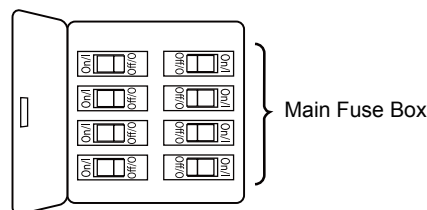
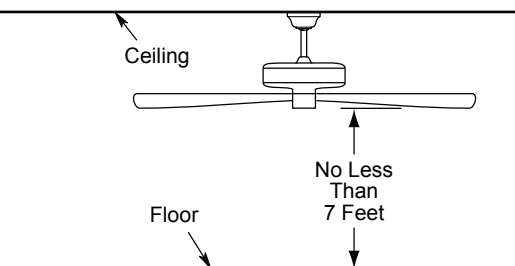
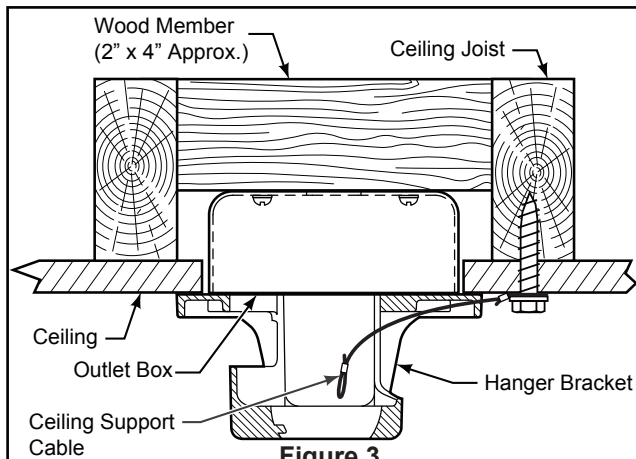

Figure 1
Figure 2
Figure 3
Your new ceiling fan will require a grounded electrical supply line of 120 volts AC, 60 HZ, 15 Amp Circuit. Electrical code requires use of a fan-rated outlet box to support the extra weight and motion associated with a ceiling fan. A fan-rated box will be labeled as such and typically supports up to a 70lb ceiling fan. Fan-Rated Outlet Boxes vary in ratings and design. Ensure the ratings of your ceiling fan outlet box meet the requirements for the ceiling fan being installed. Figure 1, Figure 2 and Figure 3 depicts different structural configurations that may be used for mounting the outlet box.
Low profile box (Figure 1)
Deep box (Figure 2)
Deep box with brace (Figure 3)
- ☐ 1. Prior to assembly, set aside and save the hardware bags included in the packaging. Remove the hanger ball by loosening the set screw in the hanger ball until the ball falls freely down the downrod. Remove the pin from the downrod, then remove the hanger ball. Retain the pin and hanger ball for reinstallation in Step 6. (Figure 1)
- ☐ 2. Remove the hairpin clip and clevis pin from the bottom of downrod. Retain the pin and clip for reinstallation in Step 4. (Figure 2)
- ☐ 3. Loosen the two set screws and locking nuts in the downrod support of the motor assembly. Route brown, blue, red, gray and yellow wires and safety cable through the downrod. (Figure 3)
To avoid possible fire or shock, be sure electricity is turned off at the main fuse box before hanging. (Figure 1)
The fan must be hung with at least 7' of clearance from floor to blades. (Figure 2)
- ☐ 1. Securely attach the hanger bracket to the outlet box using the outlet box screws and washers supplied with the fan. (Figure 3)
- ☐ 2. Drill a 1/4" pilot hole into the building structure to prevent splitting or cracking with installation of the lag bolt. Using the 3/8" x 2" lag bolt and flat washer, attach safety cable to ceiling joist or wood structural member. The lag bolt will pass through the flat washer, safety cable loop, and into the building structure. (Figure 3)
NOTE: Ceiling support cable cannot be secured to outlet box only, it must be directly secured to ceiling joist or structural member using the 3/8" x 2" lag bolt and flat washer. (Figure 3)
- ☐ 1. To set the code on receiver unit, slide dip switches to the same positions as set on the remote control. (Figure 1)
To avoid possible electrical shock, be sure electricity is turned off at the main fuse box before wiring. (Figure 2)
- ☐ 2. Slide the receiver into the hanger bracket before wiring as shown in figure 3.
- ☐ 2. Securely attach and tighten the canopy screw cover over the shoulder screws in the hanger bracket utilizing the keyslot twist-lock feature. (Figure 2)
- ☐ 2. Assemble the light kit to the support bracket using the two key slots in the light kit. Replace the previously removed screw and securely tighten all three screws. (Figure 2)
- ☐ 3. Remove the three screws in the light kit and retain the screws for later. (Figure 3)
- ☐ 2. Restore electrical power to the outlet box by turning the electricity on at the main fuse box. (Figure 2)
- ☐ 3. Remove the battery cover from remote control by screwdriver and retain the screw for later. (Figure 3)